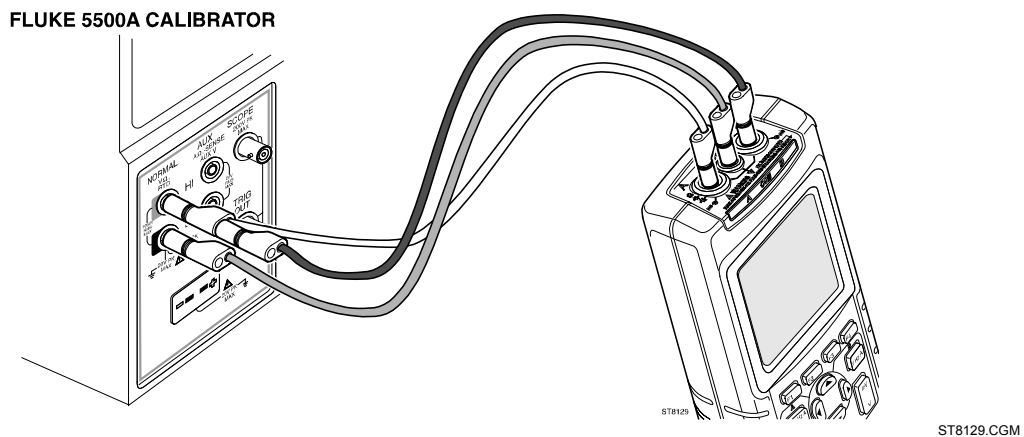

Figure 4-6. Test Tool Input A-B to 5500A Normal Output for >300V
1. Connect the test tool to the 5500A as shown in Figure 4-6.